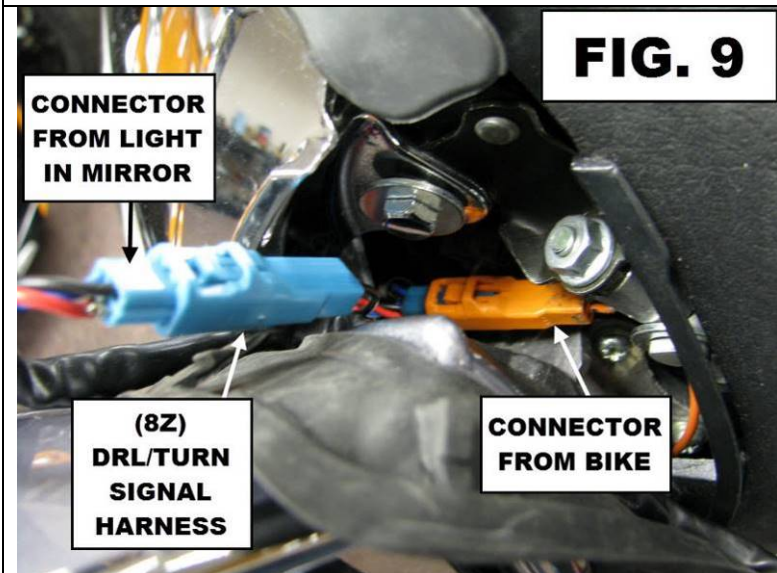

FIG. 9
- UNPLUG THE CONNECTOR IN EACH MIRROR AND ADD IN THE NEW HARNESS AS SHOWN IN FIG. 9. CONNECT THE OTHER END TO EACH FOG LIGHT. SEE FIG. 5.